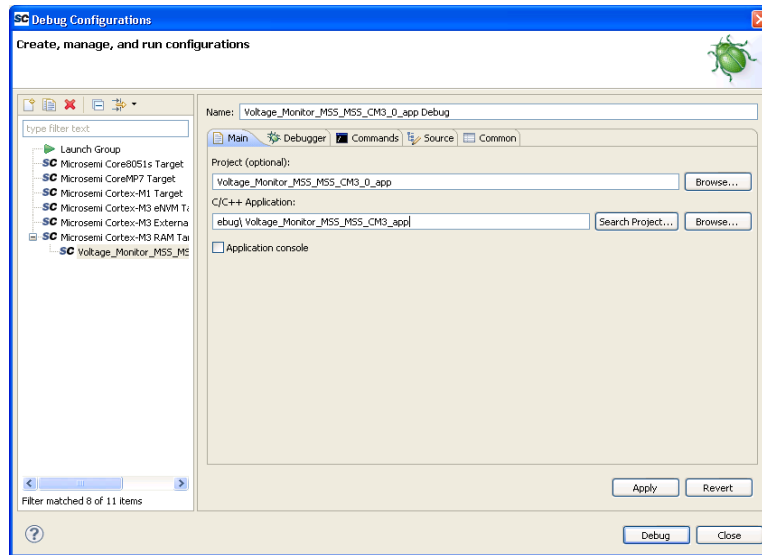

Figure 32 Debug Configurations Window
2. Double click on **Microsemi Cortex-M3 RAM target**. The **Debug Configurations** window is displayed, as shown in Figure 32.